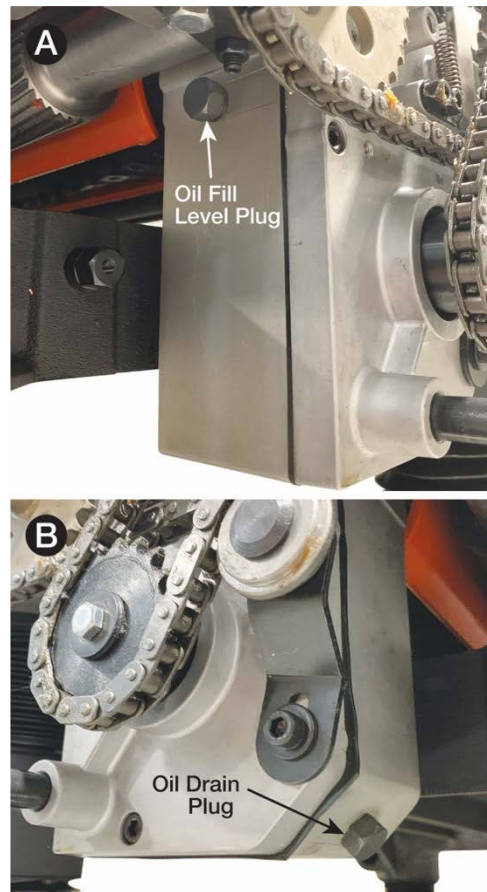

Figure 34
5. Remove the oil fill level plug (Figure 34).
6. Remove the oil drain plug (Figure 34) and allow all gear box oil to drain. Properly dispose of used gear box oil.
8. Add high quality 70-90 weight gear oil. Fill and carefully watch the open oil fill level hole (Figure 34). The gear box is full when gear oil starts to seep from open oil fill level hole. Replace and tighten oil fill level plug.